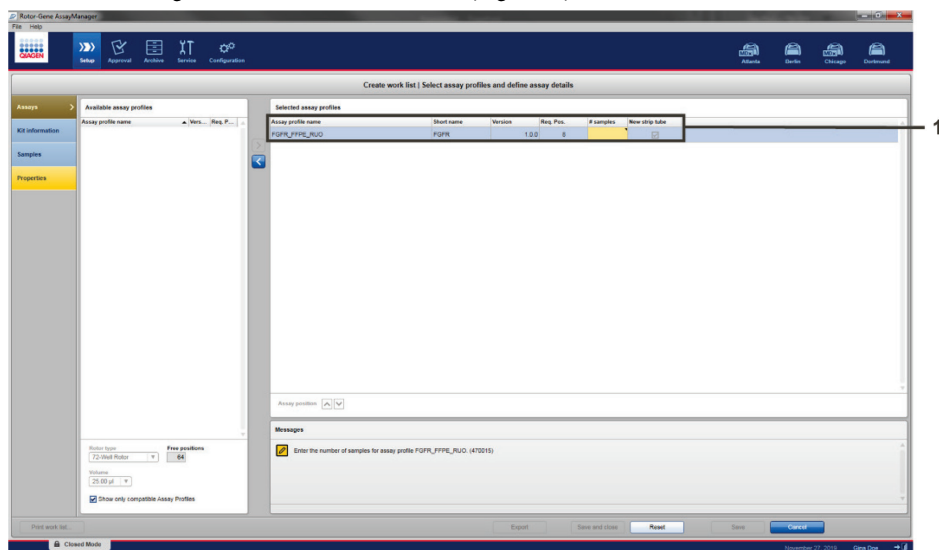

Figure 8. Create work list main window. 1 = Add the number of samples in the "Assay profile name".
4. In the Selected assay profiles window, enter the number of test samples to be tested excluding the number of run controls (Figure 8).